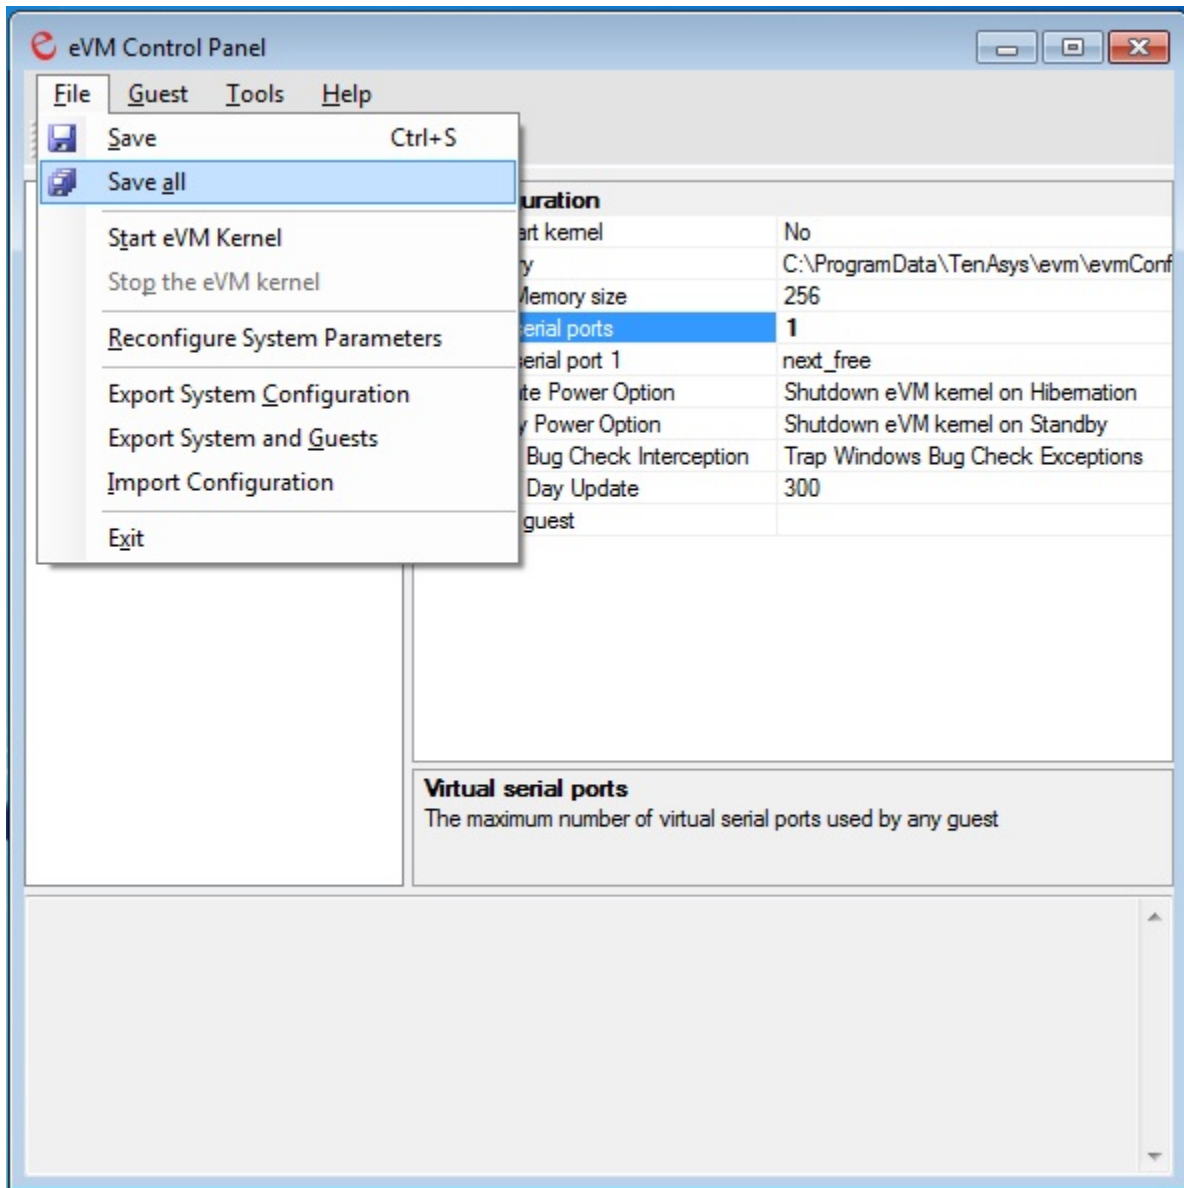

Figure 4.24 - Saving eVM Control Panel Configuration
- To apply this configuration change, you must save the new configuration. From the eVM Control Panel dropdown, select **File->Save all** Figure 4.24.